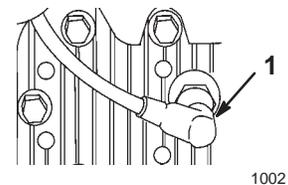

Figure 31
- Disconnect the wire from the spark plug (Fig. 31).
- Remove the spark plug (Fig. 31).
3. Remove the spark plug (Fig. 31) and spin the engine rapidly using the starter to blow the excess oil from the cylinder.